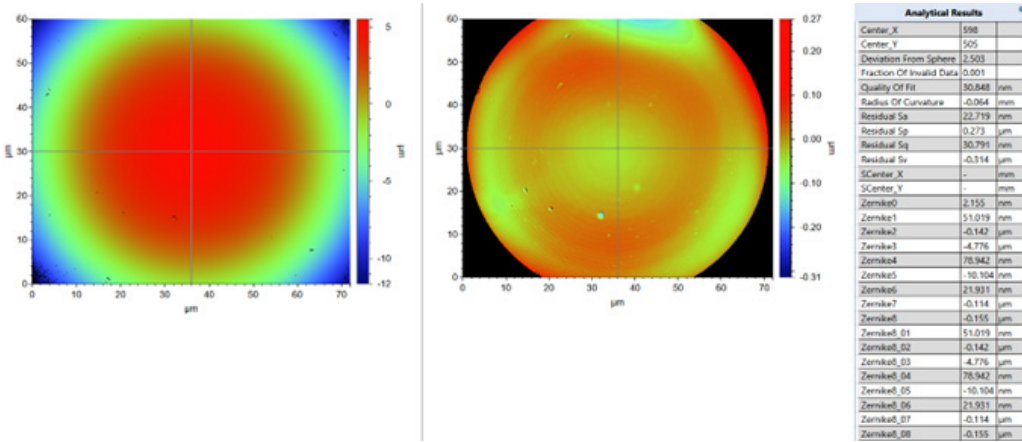

FIGURE 7
- **Zernike Analysis** — Fully automated Zernike analysis can locate a lens, align to center the lens, crop off the substrate and perform data analysis. Zernike analysis uses an orthogonal circular-function fitting to remove the form and report up to 36 Zernike parameters, as seen in Figure 7. Also reported are the standard radius of curvature and surface texture parameters.